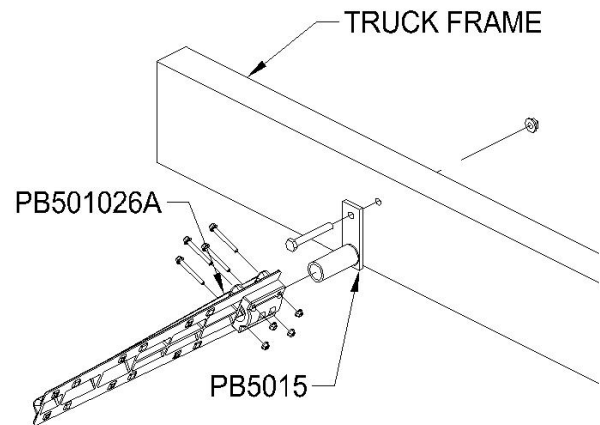

Figure 7
- A. Once the brackets are placed in position with the fender, securely tighten down the 5/8" x 4-1/2" bolts that go through the PB5015 steel swivel attaching the swivel to the frame. See Figure 7